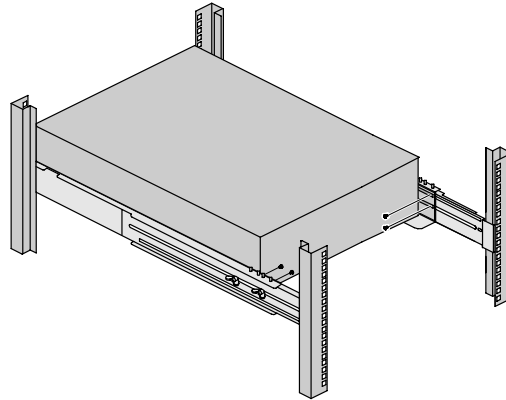

Figure 10. Securing the Rear Hold-Down Brackets
- 14. Optional.** If you installed the rear hold-down brackets, secure the brackets to the rear rails using two screws for each bracket (see Figure 10).